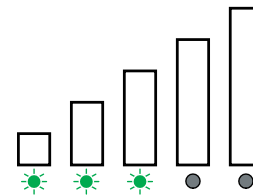

Figure 17
6. After selecting the radio channel, wait for the Signal Strength LEDs to stop sweeping back and forth. 1 to 5 solid green LEDs means a connection has been made and indicates the strength of the signal (Fig. 17).